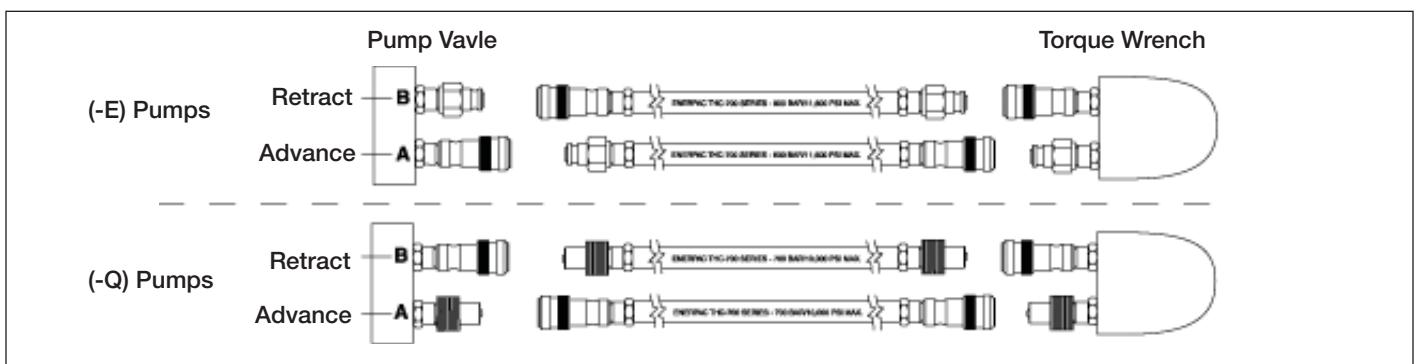

Figure 5
Connect hoses as shown in Figure 5.
1. (-E) Pump type for Enerpac SQD and HXD torque wrenches. Be sure to use hoses marked "ENERPAC THC-700 SERIES - 800 Bar/11,600 psi max." The couplers on these hoses are "polarized" at the factory to ensure correct wrench operation. (See figure 5.)
2. (-Q) Pump type for Enerpac S and W torque wrenches and other brands. Use hoses marked "Enerpac THQ-700 series-700 bar/10,000 psi max.". Couplers must be polarized per figure 5 for correct wrench operation. Ensure couplers are fully engaged and tightened before operating. Partial coupler engagement will prevent proper wrench operation.